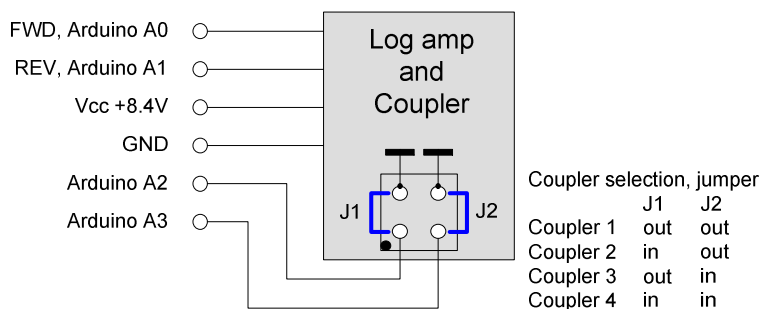

Fig. 3: Coupler selection.
- At ADC input A0 (Figure 3), the forward voltage (FWD) should be significantly greater than the reverse voltage (REV) at A1.
For the connected coupler (see Fig. 3), the ADC measures the output voltages of the log amps of the transmission channel (Forward, FWD) and the reflection channel (Reverse, REV). With the help of the straight calibration lines stored in the EEPROM the corresponding power level in dBm at the log amp inputs is calculated. The actual TX and reflected power (dBm) injected into the coupler is given by adding the coupling factor of the coupler and attenuator attenuation in front of the log amps. Power is displayed in Watt.
According to the jumper setting (Fig. 3), the data block for the currently used coupler (= "Unit") is selected. The first two setup steps apply to all couplers.